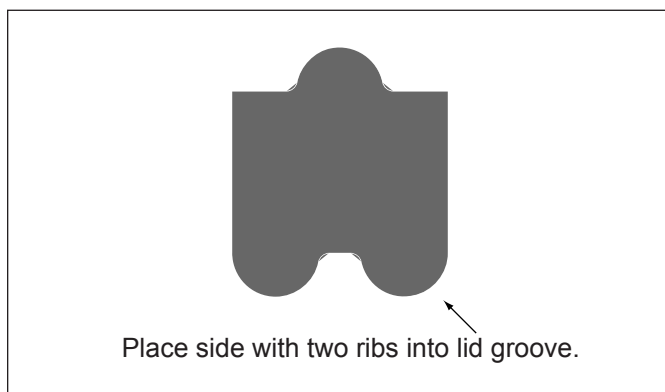

Figure 2. Cross Section of Lid Seal
6. Note that one (1) side of the lid seal has two (2) ribs and the other has one (1). Place the side with two (2) ribs into the lid groove. See Figure 2.
Bubbles present in the pump basket.	<p>Air in system. Check pool or spa water level to ensure that it is at the proper level and that air is not being drawn into suction piping. If water is at normal level, turn off pump. Turn lid's locking ring counter-clockwise until 'START' aligns with ports. Remove lid and check for debris around lid seal seat OR improper installation of lid seal, as either of these conditions will cause air leaks in the system. Clean lid seal and lid groove. Note that one (1) side of lid seal has two (2) ribs and the other has one (1). See Figure 2. Place the side with two (2) ribs into lid groove. Replace the lid on the pump housing. Align 'START' with the ports and turn the locking ring clockwise until 'LOCKED' aligns with the ports. Hand-tighten the lid to make an air tight seal. Do not use any tools to tighten the lid. Turn the pump back on.</p>